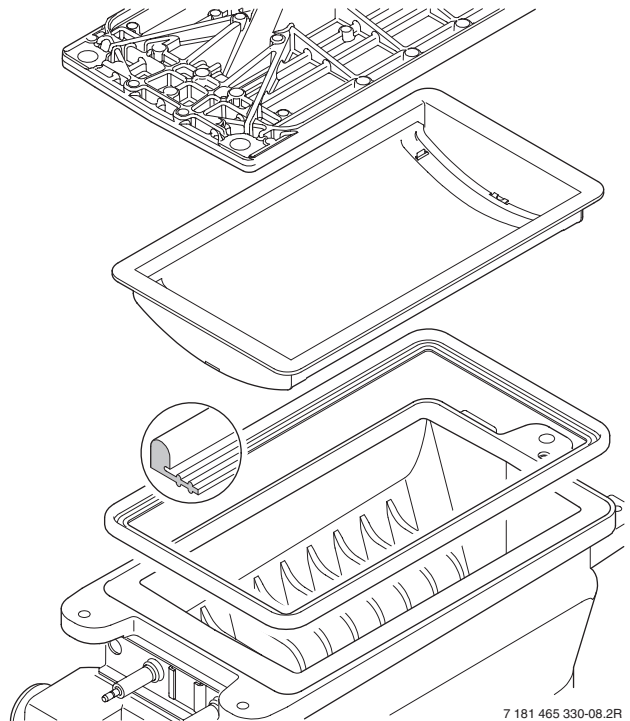

Fig. 56
- ▶ Remove the burner skin and clean components. Do not use a wire brush. Refer to fig. 56.